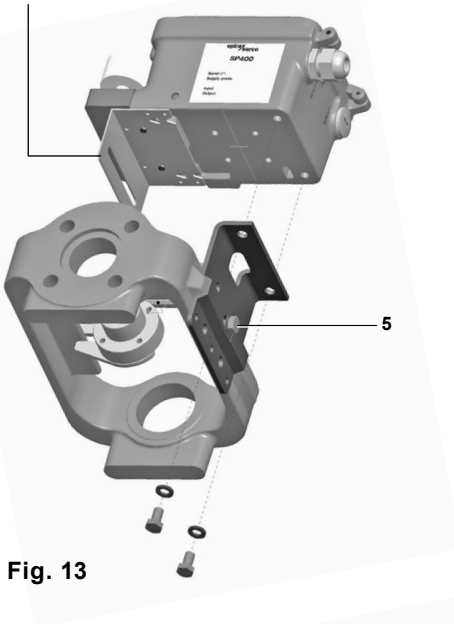
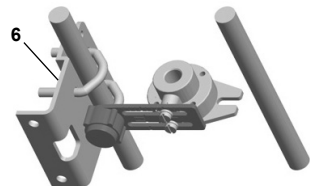

Fig. 13
Fig. 16
5.2.6 Attach the positioner mounting plate to the positioner as shown in Figures 13 and 14.
5.2.8 When the SP400 positioner and mounting plate assembly is correctly positioned, tighten the hexagon headed screw (5) on the yoke mounted actuator (Fig. 13) to 10 - 12 Nm and tighten the 'U'bolt nuts (6) on the pillar mounted actuators (Figure 16) to 10 - 12 Nm.